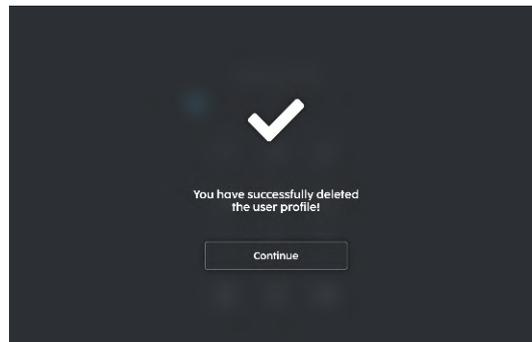

FIGURE 3-20
4. User has been successfully deleted (**Fig. 3-20**).